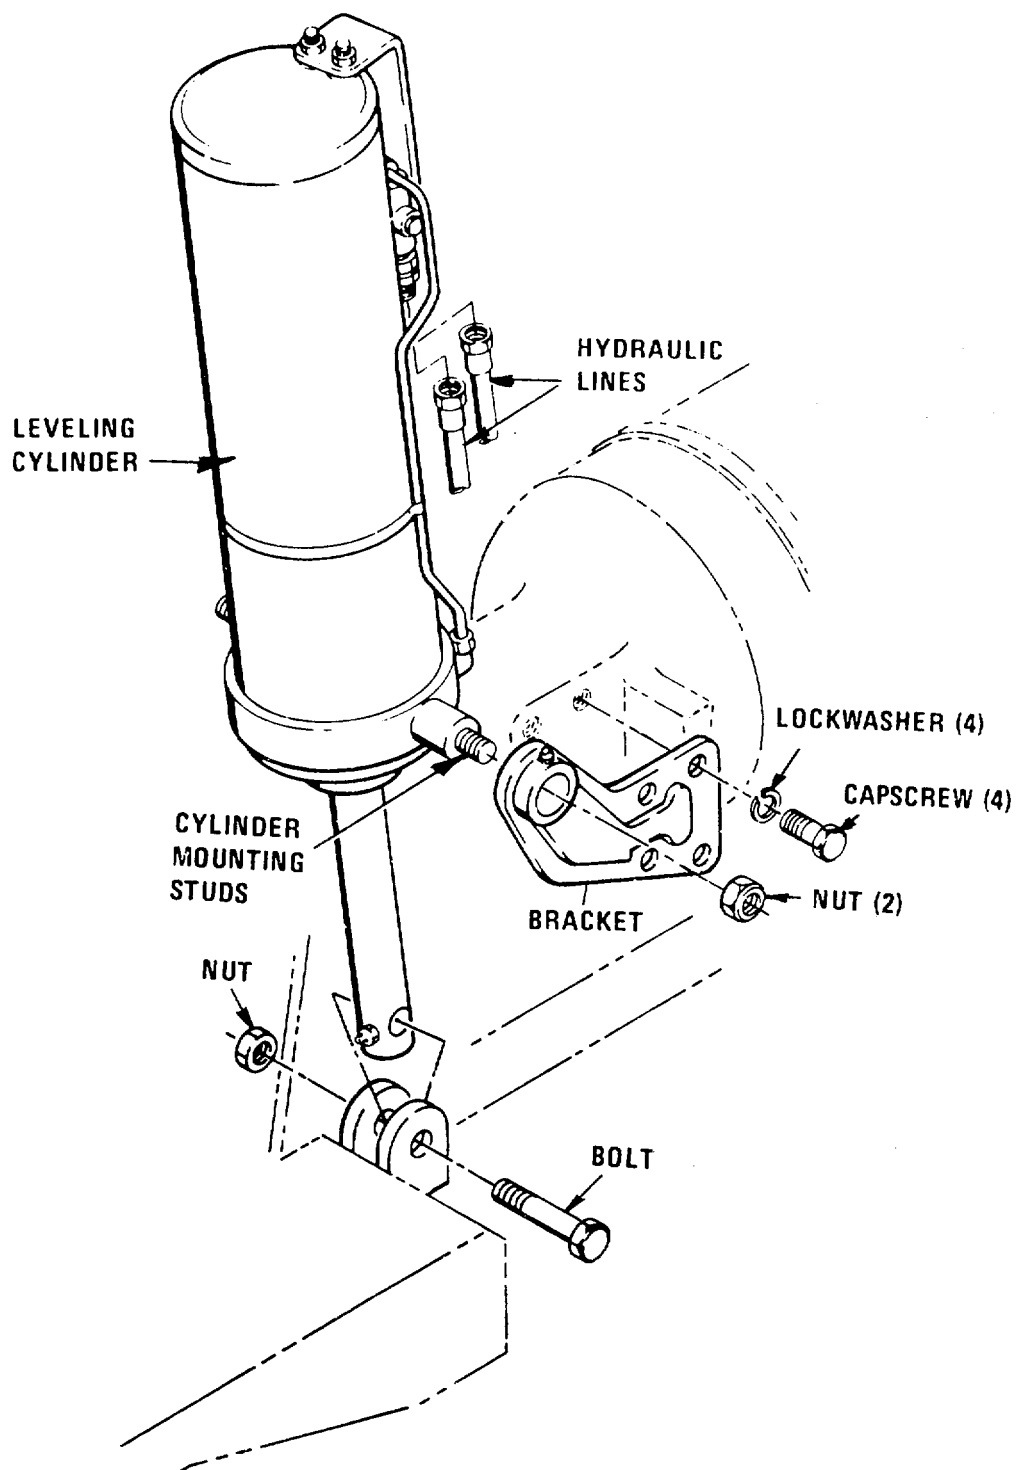

Figure 6-30. LEVELING CYLINDER INSTALLATION
1. Remove cylinder from machine. Refer to Figure 6-30, Leveling Cylinder Installation, reverse procedure. Refer to Figure 6-29 while performing remainder of cylinder packing procedure, and Paragraph C-2 thru C-5.
4. Attach the four capscrews and lockwasher at the leveling cylinder bracket as shown in Figure 6-30.